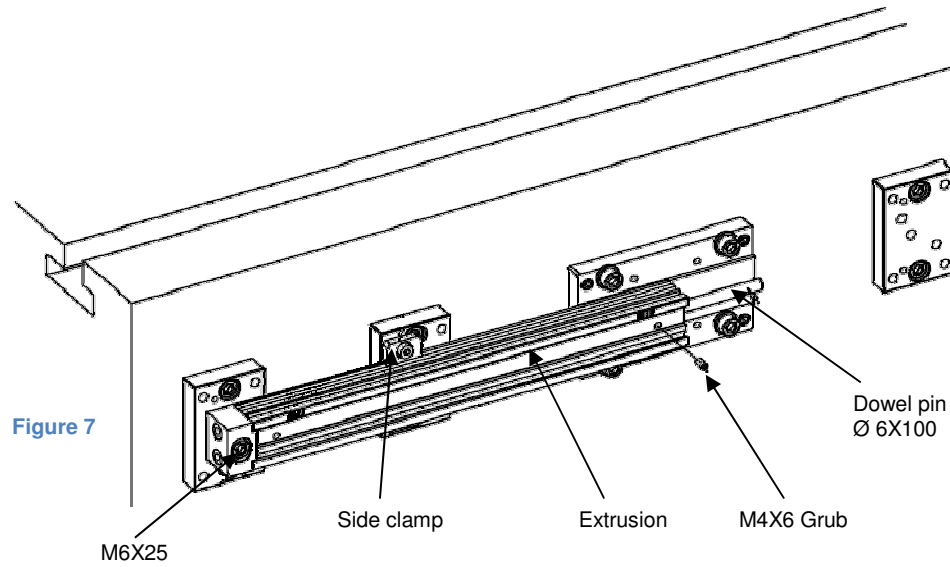

Figure 7
- At approximately every 500mm side clamps should be installed as shown in Figure 7.